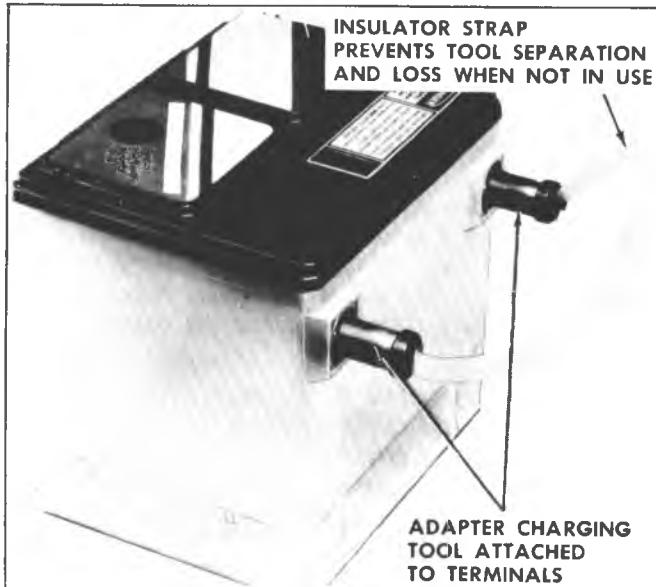

Fig. 6D-3B-Side Terminal Battery Adapters
d. If voltage does not drop below the minimum listed in Fig. 6D-5B, the battery is good. Temperature of the battery will change the minimum voltage to pass the load test. See Temperature vs. voltage drop Chart, and estimate the temperature the battery has been exposed to for the last several hours.